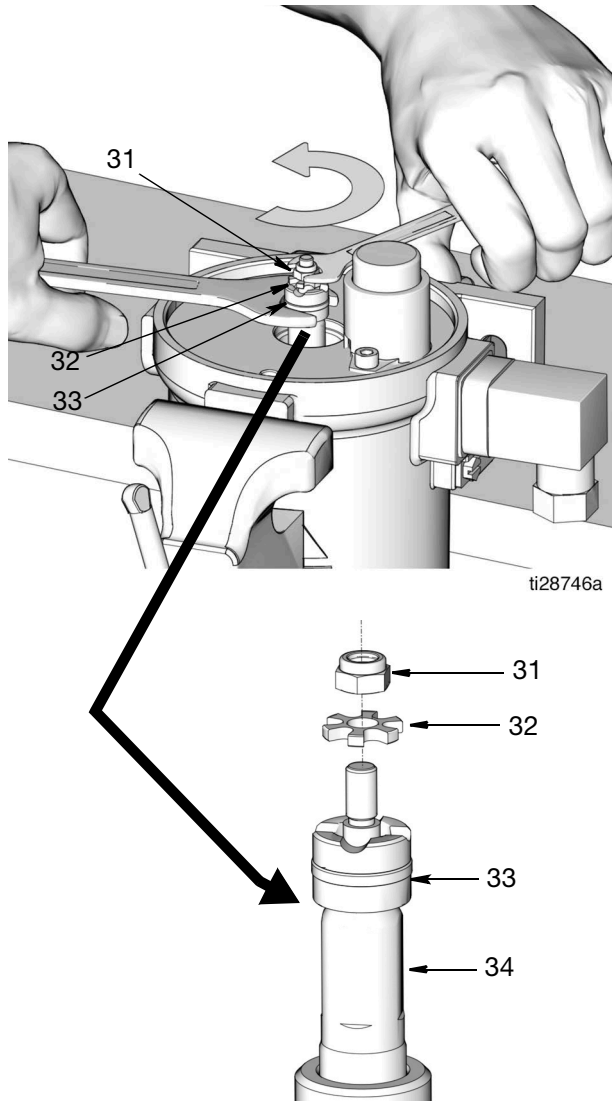

FIG. 19
16. Secure a wrench on the flats of piston rod (34). Use a second wrench to remove the lock nut (31) and star washer (32) from top of the piston (FIG. 19).